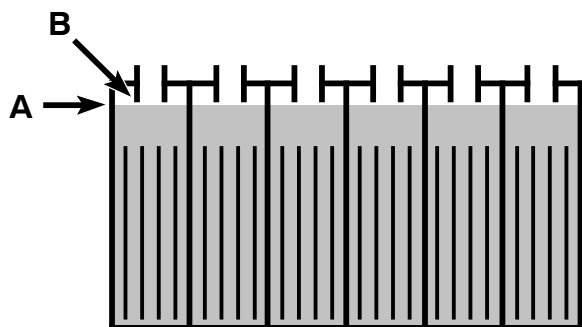

FIG. 26
3. Check the electrolyte level (A) in each battery cell **after charging batteries**. The level should be approximately 1 cm (.375 in) from the bottom of the fill- port (B). Add distilled water if needed (Figure 26).